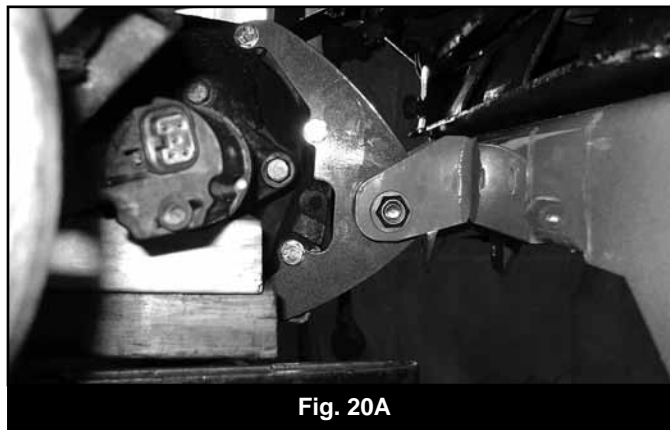

Fig. 20A
37. Raise the differential and attach to the new front crossmember tabs with a 9/16" x 4-1/2" bolt, nut and washers (BP 555). Leave hardware loose. (Fig 20A)